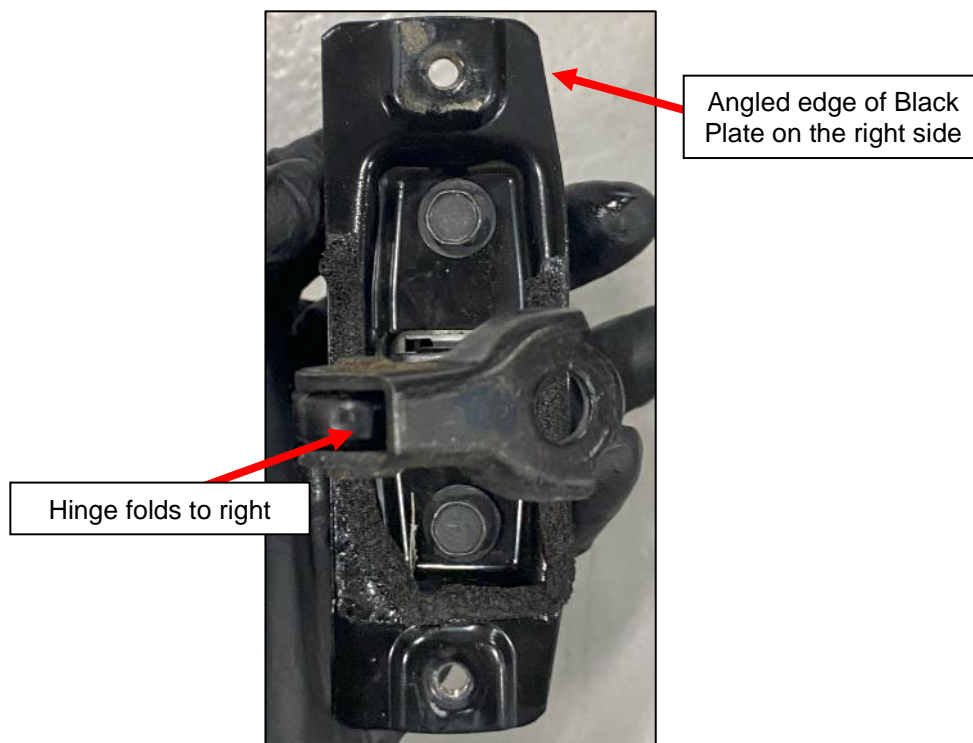

Figure 104
3. Make a note of the Orientation of the Black Plate on the Silver Plate in relation to the Check Link Assembly. It will need to be reinstalled in the same orientation. *Figure 104.*